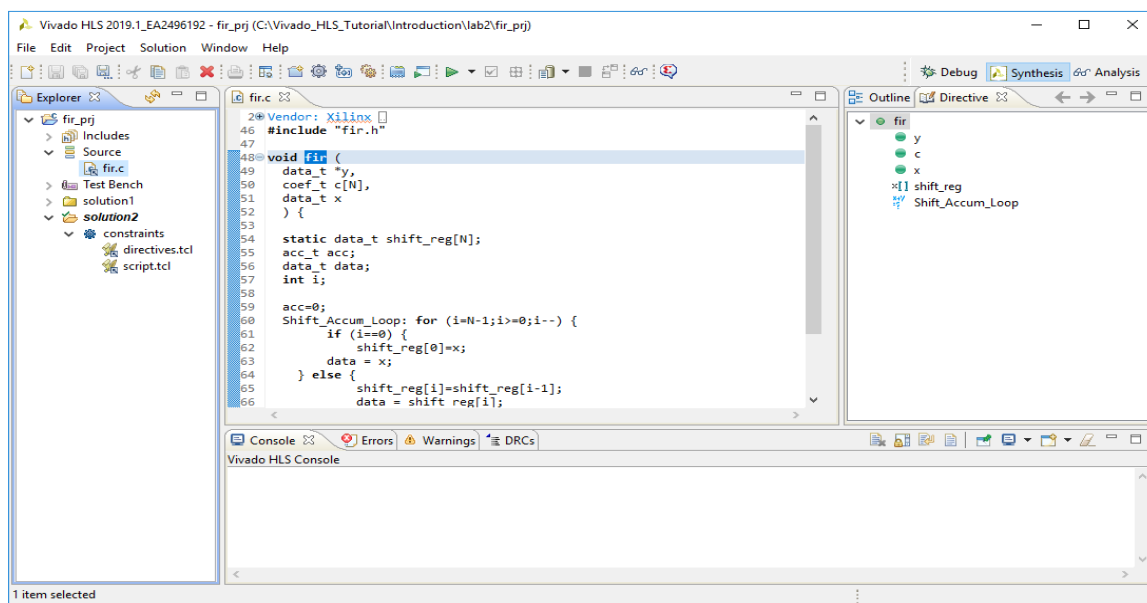

Figure 2-21: Opening the Directives Tab
4. In the Explorer pane, expand the **Source** container (as shown in Figure 2-21).
The Directives tab, shown on the right side of Figure 2-21, lists all of the objects in the design that can be optimized. In the Directive tab, you can add optimization directives to the design. You can view the Directives tab only when the source code is open in the Information pane.